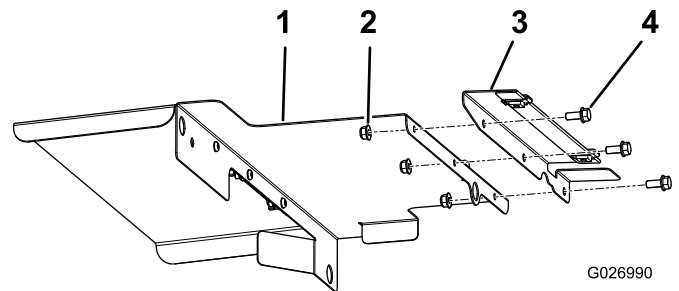

Figure 19
4. Install the left cover shield to the left cover (Figure 19).